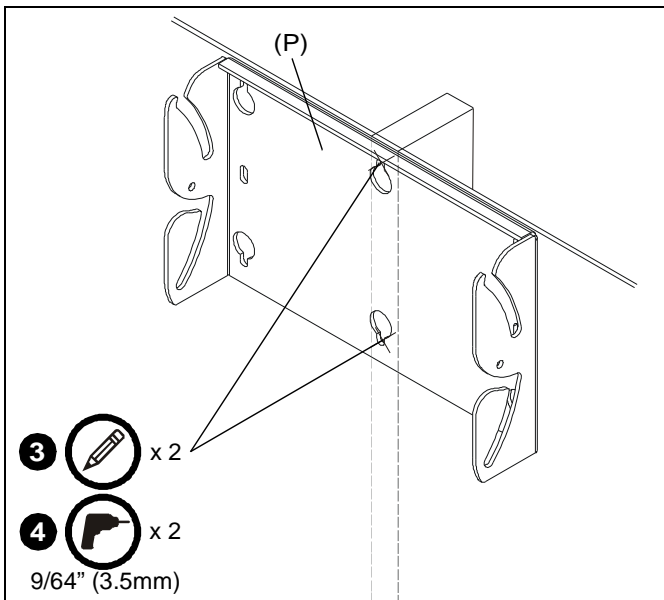

Figure 1
3. Using wall bracket (P) as a template, mark hole locations at center of wood stud at desired mounting height. Use a level to ensure mount will be level. (See Figure 1)
4. Drill two 9/64" (3.5mm) holes at marked locations. (See Figure 1)